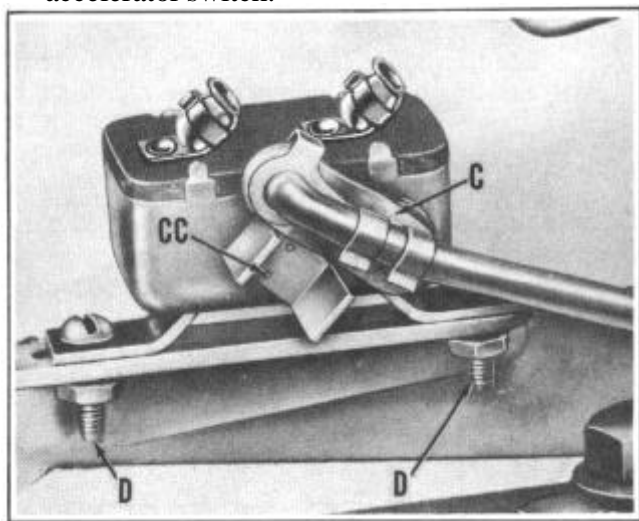

FIGURE 47
- B. With lever (C) Figure 47 against stop (CC) as indicated by an arrow lamp should light.
- C. Move lever (C) 10 degrees from stop (CC) light should go out.